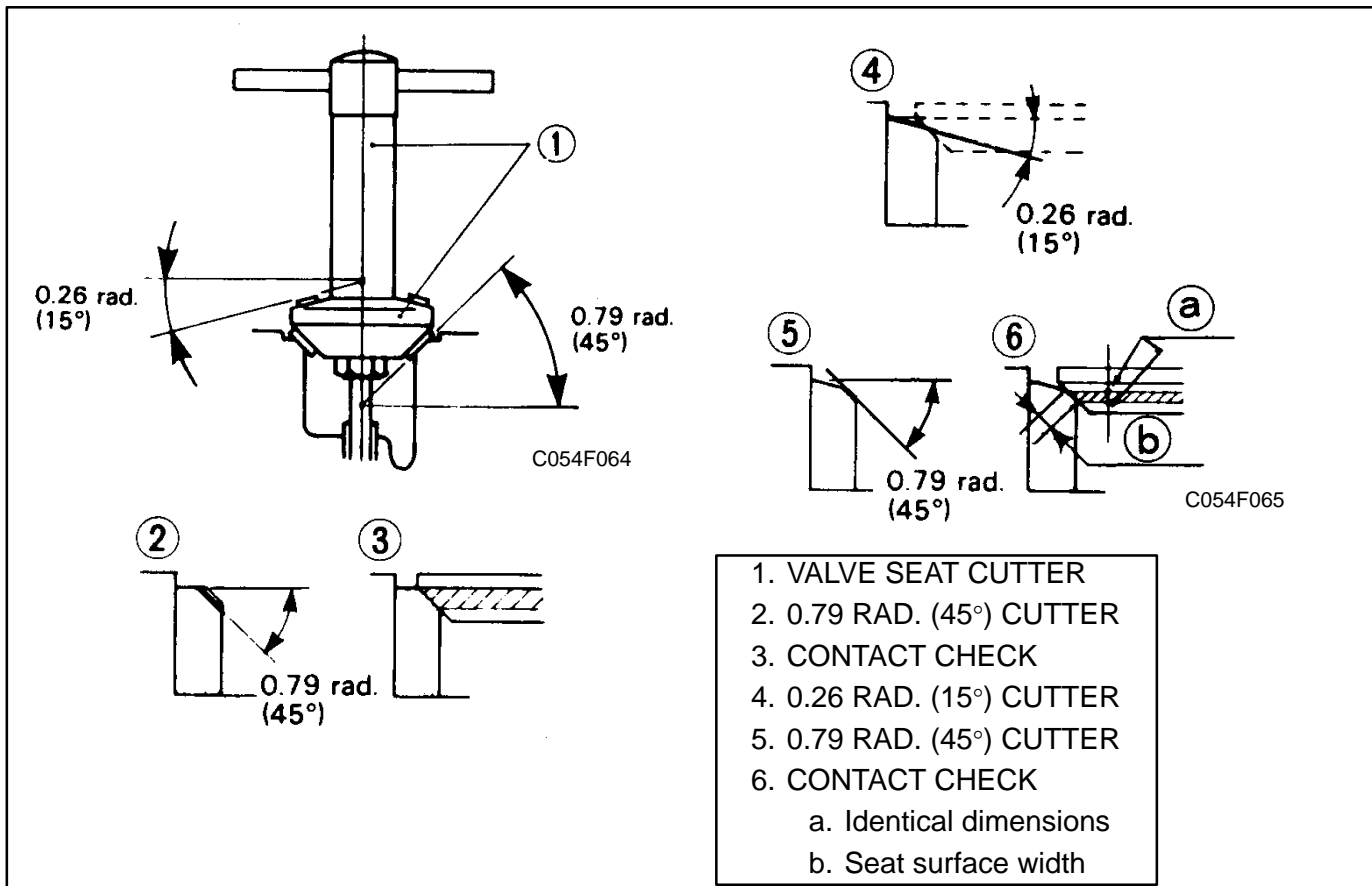

FIGURE 9-28. REGRINDING VALVE SEAT
2. Measure the valve seat width (Figure 9-28) with a vernier calipers.
1. Grind valve seat surface with a 45° cutter. Use a cutter appropriate for the valve seat surface and valve guide diameter (Figure 9-28).